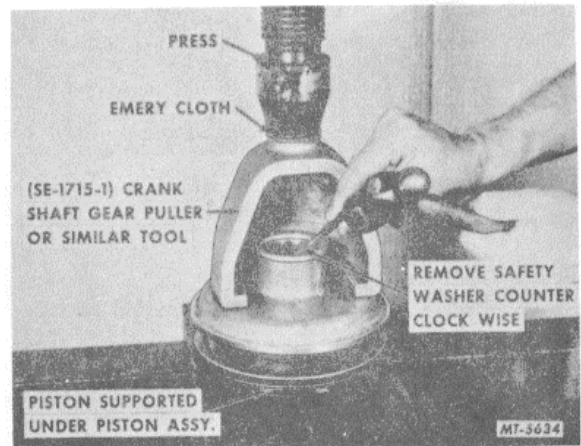
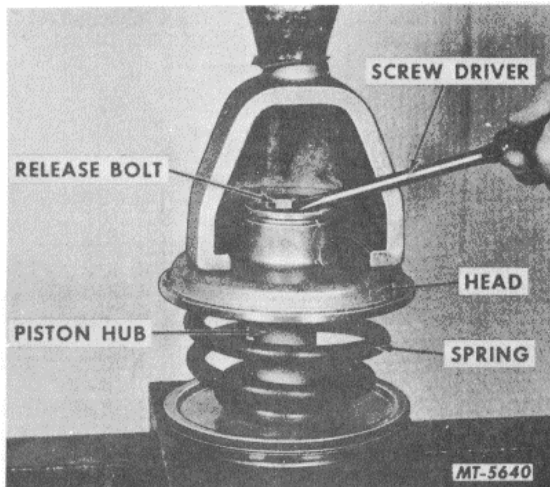

Fig. 14 Loosening Safety Washer.
Fig. 19 Aligning Piston with Head Bore.
emery cloth (abrasive side against press and tool) to serve as a nonslip pad between the press ram and tool, Fig. 14. Depress assembly as shown in Fig. 14.
1. Position piston assembly, spring and head in a press as shown in Fig. 16. Thread release bolt into piston so that bolt may be used to align piston with bore in head, Fig. 19. Fold a small square of emery cloth (abrasive side against press and tool) to serve as a nonslip pad between the press ram and tool, Fig. 14. CAUTION: Be certain that components are aligned with press ram so that when pressure is applied from press, spring does not "kickout". Slowly compress assembly. Remove release bolt after piston is aligned with bore in head.